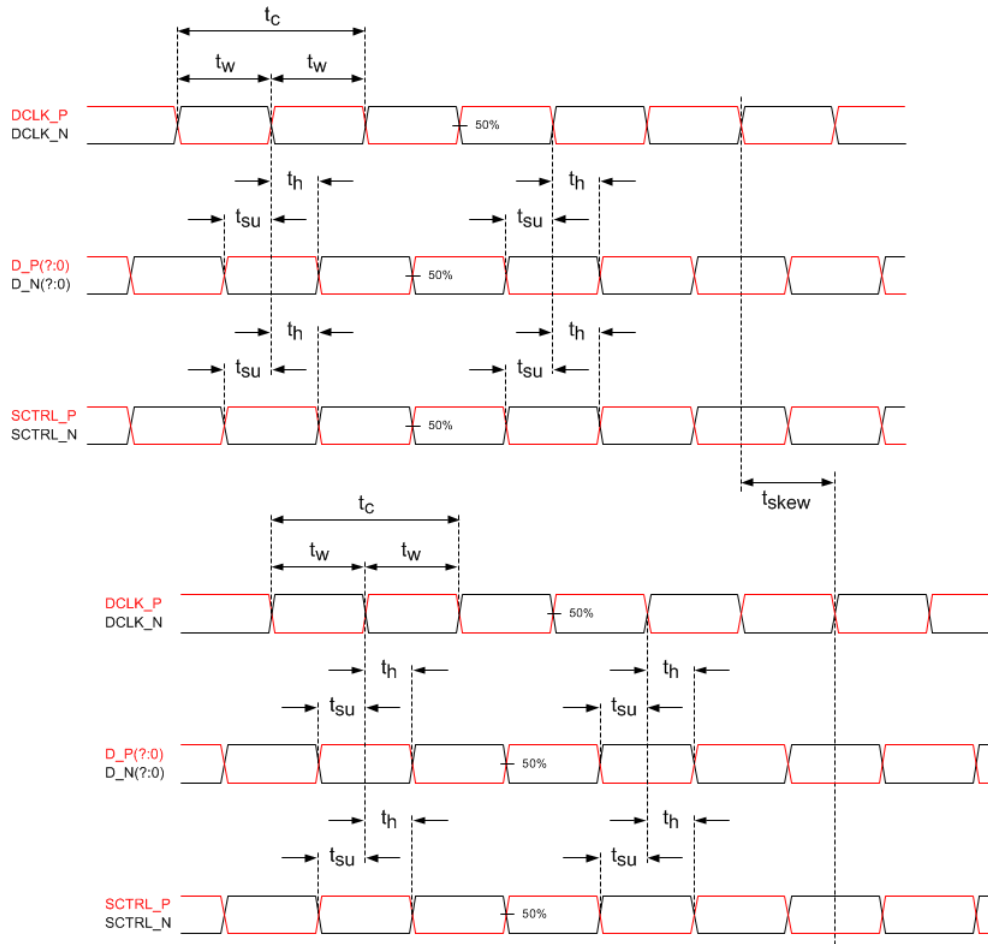

Figure 6-5. Timing Requirements
- (7) See LVDS Timing Requirements in Section 6.7 and Figure 6-5.
(1) See Figure 6-5 for timing requirements for LVDS.
(2) Channel A (Bus A) includes the following LVDS pairs: DCLK_AN and DCLK_AP, SCTRL_AN and SCTRL_AP, D_AN(15:0) and D_AP(15:0).
(3) Channel B (Bus B) includes the following LVDS pairs: DCLK_BN and DCLK_BP, SCTRL_BN and SCTRL_BP, D_BN(15:0) and D_BP(15:0).